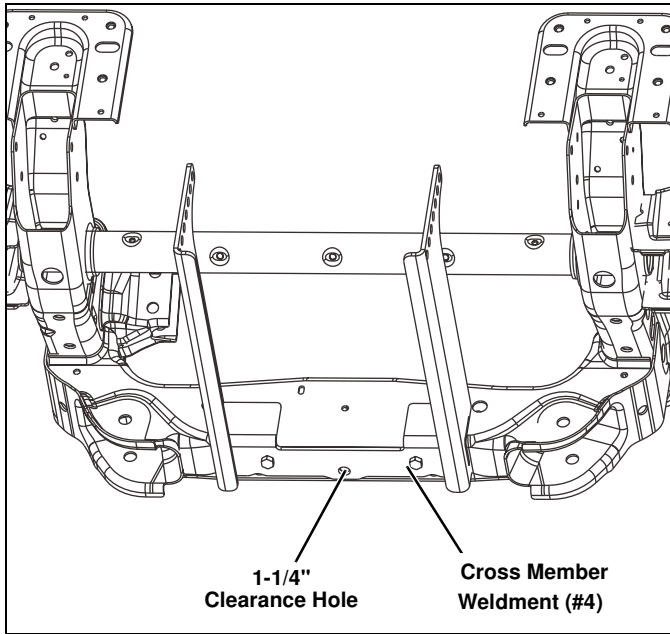

Figure 2
- Center punch and drill a 1-1/4" clearance hole in the back splash guard directly above the rear hole of the Cross Member Weldment (#4). (See Figure 2.)